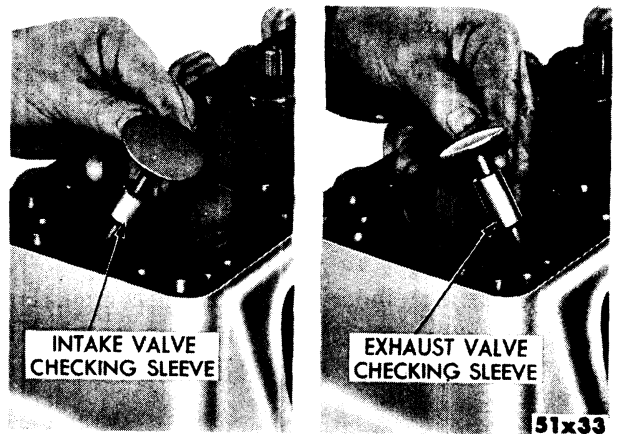

Fig. 139—Installing Sleeves To Check Guide Clearance
- (1) Slide sleeve, Tool C-3025, on intake valve, or Tool C-3026 on exhaust valve stem, as shown in Figure 139. Insert valve in position in the cylinder head.